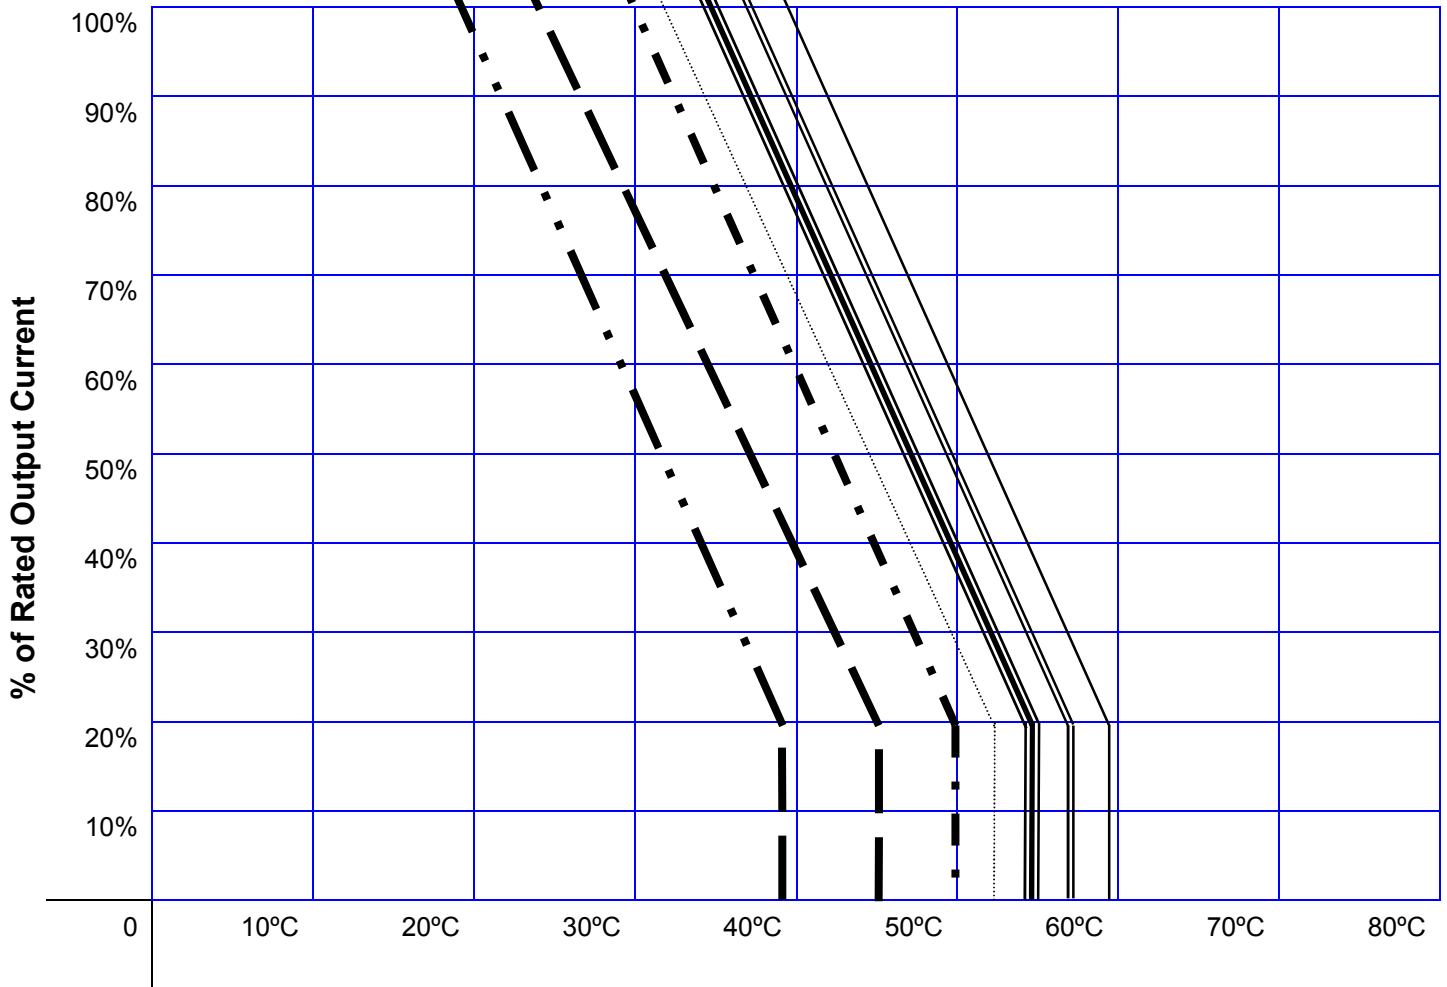

Fig. 2 - Typical Temperature/Altitude De-rating Chart
- **Temperature Correction & Altitude Correction**, the factors related to these items require more than basic consideration. In many cases the actual correlation is such that you can de-rate the charger by application rather than performance. For example, as you increase altitude the ambient temperature could be lower. Since that is interrelated you could have a charger in an application at 10,000 feet but the highest ambient might be only 40 deg C rather 50 deg C to still allow for 100% of rated output. (See Figure 2) In this case there would be no reason to select a larger charger to accommodate this environment, since the existing charger could meet the new environmental situation. It is imperative that you consult a charger manufacturers de-rating chart to determine actual charger performance.